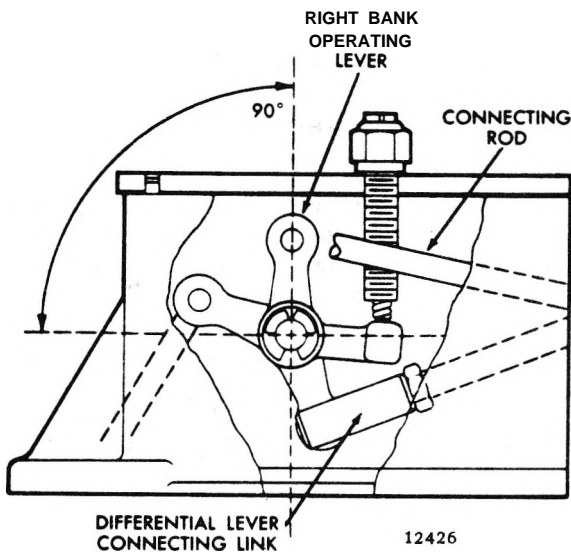

Fig. 3 - Operating Lever in Position (Current)
3. **On current governors**, with the governor cover removed, position the right bank operating lever (Fig. 3) with the arm that carries the connecting rod in the vertical position. Then set the No. 1R injector control lever in the *no-fuel* position, as follows:
- c. Hold the terminal lever (Fig. 3, Section 2.7.2) in the *full-fuel* position.